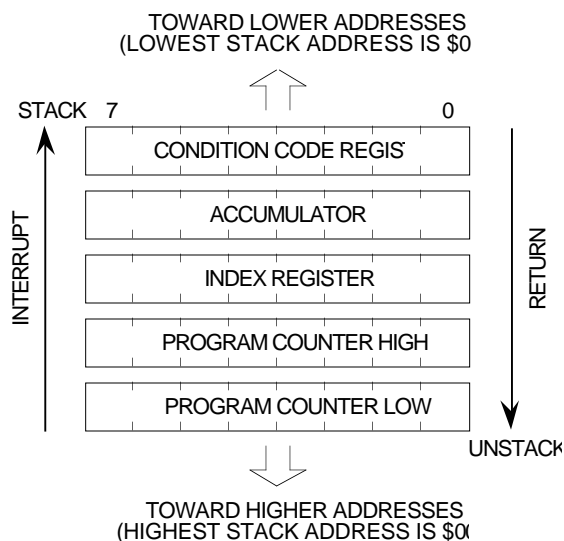

Figure 5-2. Interrupt Stacking Order
- Stores the contents of the CPU registers on the stack as shown in Figure 5-2
The return from interrupt (RTI) instruction causes the CPU to recover the CPU registers from the stack as shown in Figure 5-2.